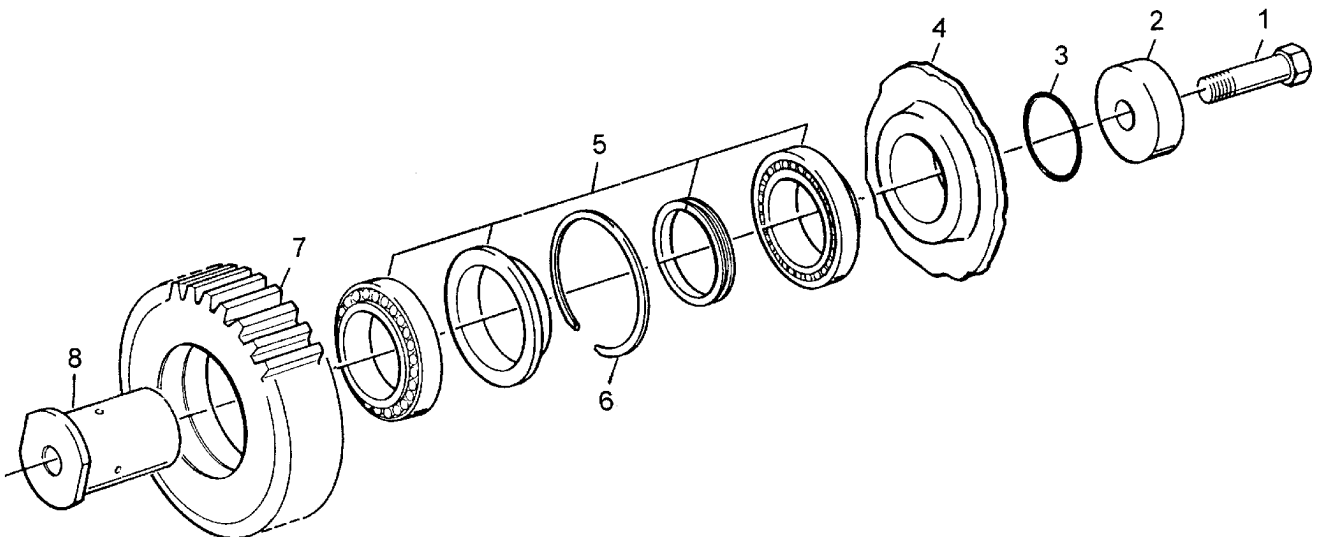

Fig. 6.55. Exploded View of Reverse Idler Gear
1. Remove bolt (1, Fig. 6.55) from transmission cover and remove idler gear assembly from cover. Press shaft (8) off bearings (5). Remove bearing cups from gear assembly.
2. If removed, install ring (6) in gear with spacer. Press bearing cups into gear until shoulder on retaining ring (6) and spacer contact. Install shaft (8) with bearing cones.